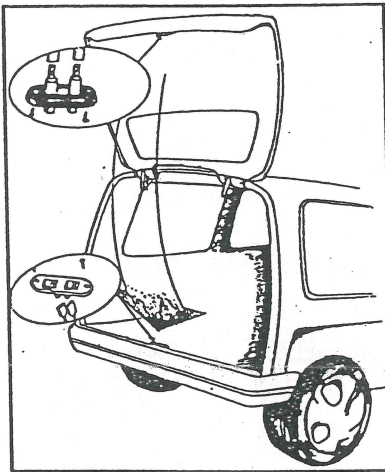

Fig. 1
1. Cut out template "A" and place over the section were the male switch is to be installed. Drill and install the male part of the switch onto the sliding section or opening tailgate section of the vehicle. (Ref fig. 1 &2)
3. Cut out template "B" measure and place over the section were the paint has left the mark. Drill and install the female part of the switch onto the vehicle body. (Ref fig. 1&2)